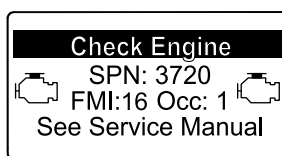

Figura 81
- Engine warning (Avertisment motor) SPN 3720, FMI 16 (Figura 81)